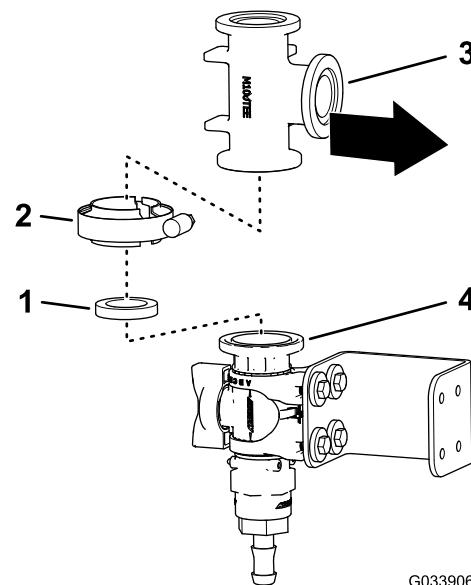

Figure 29
4. Align the flange of the T-fitting to the flange of the control valve as shown in Figure 29.
5. Loosely attach the T-fitting to the control valve with a gasket and flange clamp (Figure 29).
4. Tighten by hand the flange clamp that secures the control valve and the T-fitting (Figure 29) and the flange clamp that secures T-fitting to the